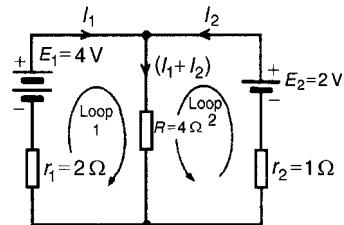

Figure 13.5
1. Use Kirchhoff's current law and label current directions on the original circuit diagram. The directions chosen are arbitrary, but it is usual, as a starting point, to assume that current flows from the positive terminals of the batteries. This is shown in Fig. 13.5 where the three branch currents are expressed in terms of  $I_1$  and  $I_2$  only, since the current through  $R$  is  $(I_1 + I_2)$
2. Divide the circuit into two loops and apply Kirchhoff's voltage law to each. From loop 1 of Fig. 13.5, and moving in a clockwise direction as indicated (the direction chosen does not matter), gives
From loop 2 of Fig. 13.5, and moving in an anti-clockwise direction as indicated (once again, the choice of direction does not matter; it does not have
(i.e.  $I_2$  is flowing in the opposite direction to that shown in Fig. 13.5)